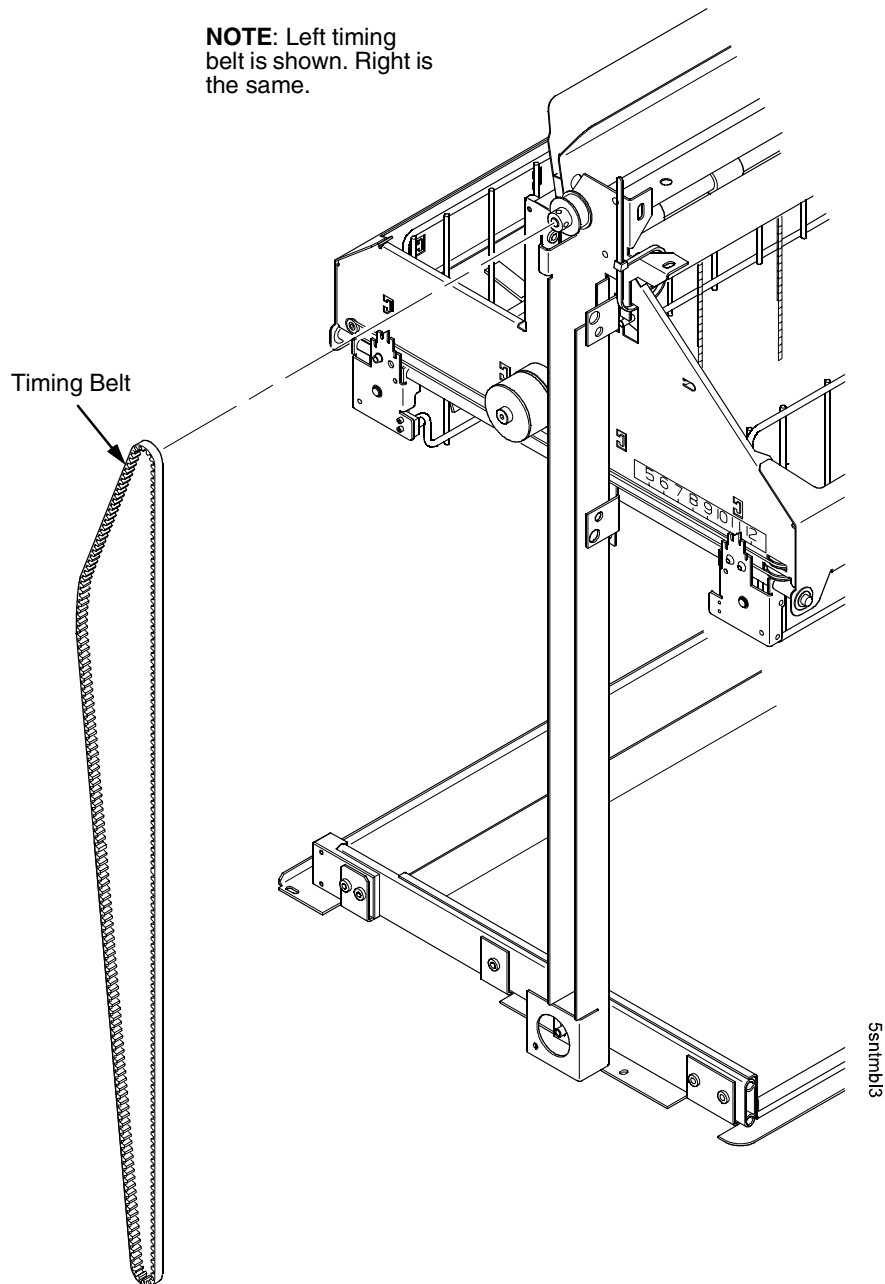

Figure 99. Removing the Timing Belt
8. Remove the timing belt by working it around the vertical rail and constant force spring. (Figure 99.)